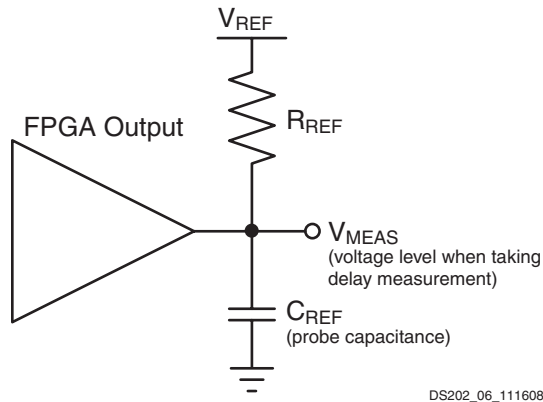
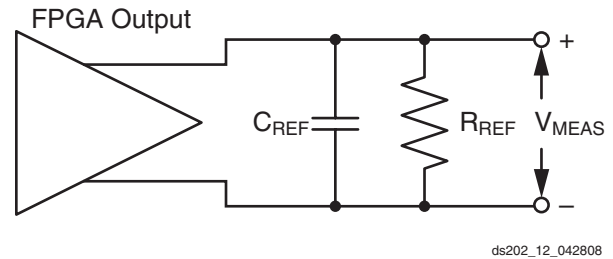

Figure 11: Single Ended Test Setup
Figure 12: Differential Test Setup
- This is an input voltage reference that bears no relation to the V_{REF} / V_{MEAS} parameters found in IBIS models and/or noted in Figure 11.
Output delays are measured using a Tektronix P6245 TDS500/600 probe (< 1 pF) across approximately 4" of FR4 microstrip trace. Standard termination was used for all testing. The propagation delay of the 4" trace is characterized separately and subtracted from the final measurement, and is therefore not included in the generalized test setups shown in Figure 11 and Figure 12.